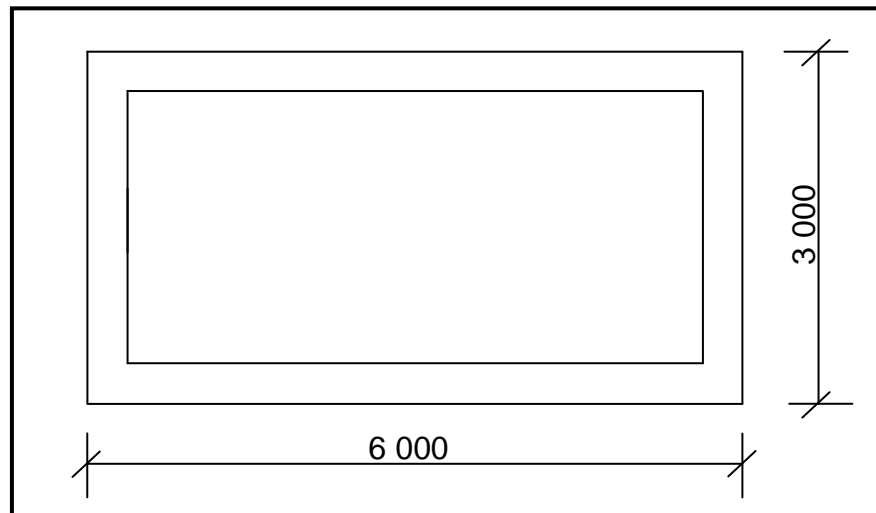

FIGURE 6.6
6.6 FIGURE 6.6 below shows the foundation of a single garage.